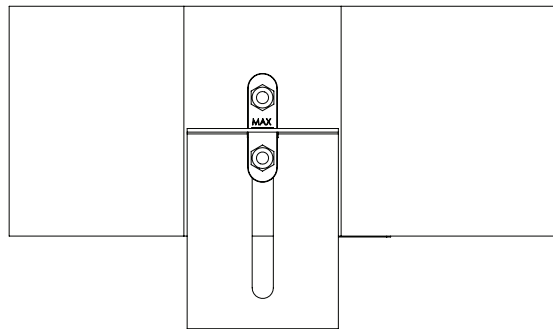

Figure 9
**DO NOT** exceed maximum forward position indicated on L-Brackets (Figure 9).